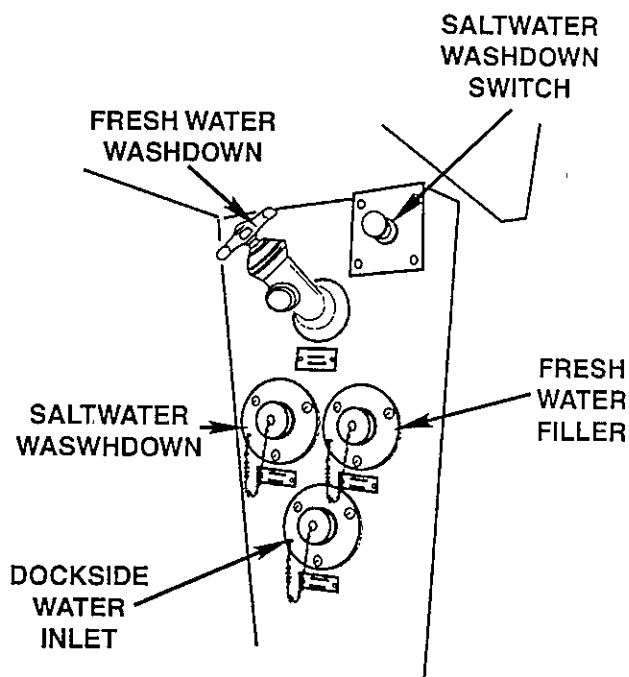

Figure 3-22 Dockside Water Inlet
1. See Figure 3-22. Connect a garden hose to the dockside water inlet located on the forward, port side of the cockpit.